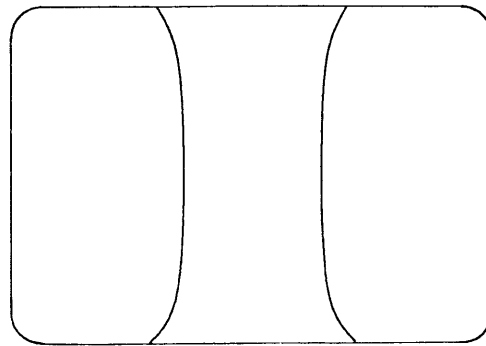

FIG 2
1. Obtain a green raster by turning down the RED (R) and BLUE (B) background (cut off) presets or by selecting a green test pattern.
2. Loosen the clamp screw holding the yoke and slide the yoke backward to provide vertical green bar (zone) in the picture screen. (Fig. 2.)